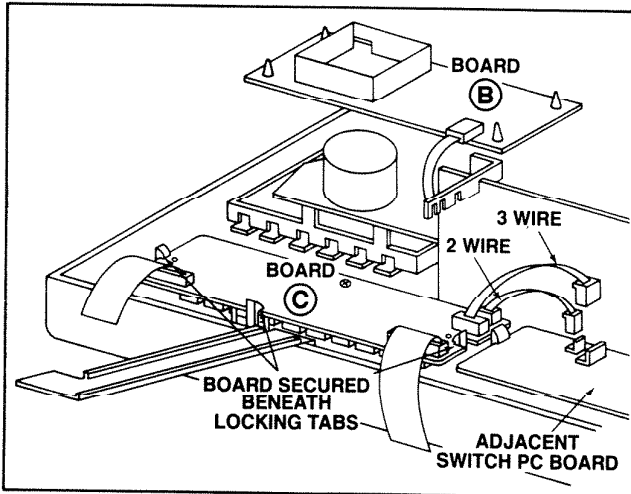

FIGURE 9
- (b) Make sure the board is secured beneath the three (3) locking tabs and fastened with the phillips head screw that is supplied. See Figure 9.
- (c) Plug the two-wire and three-wire connectors on Board (C) to matching two and three wire plugs on the adjacent switch PC board. See Figure 9.